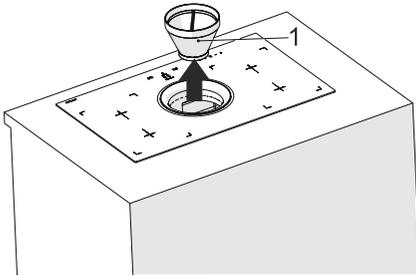

Fig. 11
2. ➔ Remove the filter cover by pulling it towards the direction of the arrow (Fig. 11)